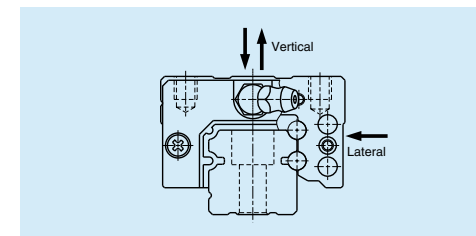

Fig. 3.4 Radial rigidity
- (1) Radial rigidity: Rigidity of vertical and lateral directions, up/down and right/left (Fig. 3.4).